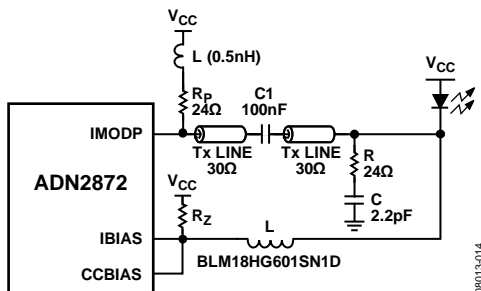

Figure 32. Recommended Interface for ADN2872 AC Coupling
This on-chip resistor helps to damp out the low frequency oscillation observed from some inexpensive lasers. If the on-chip resistance does not provide enough damping, one external  $R_Z$  may be necessary (see Figure 32 and Figure 33).
The schematic in Figure 32 describes the recommended circuit for interfacing the ADN2872 to most TO-Can or coax lasers. These lasers typically have impedances of 5 Ω to 7 Ω and have axial leads. The circuit shown works over the full range of data rates from 155 Mbps to 3.3 Gbps including multirate operation (with no change to PAVCAP and ERCAP values); see Figure 18, Figure 19, and Figure 20 in the Typical Performance Characteristics section for multirate performance examples. Coax lasers have special characteristics that make them difficult to interface to. They tend to have higher inductance, and their impedance is not well controlled. The circuit in Figure 32 operates by deliberately mismatching the transmission line on the laser side, while providing a very high quality matching network on the driver side. The impedance of the driver side matching network is very flat vs. frequency and enables multirate operation. A series damping resistor should not be used.
The 30 Ω transmission line used is a compromise between drive current required and total power consumed. Other transmission line values can be used, with some modification of the component values. The R and C snubber values in Figure 32, 24 Ω and 2.2 pF, respectively, represent a starting point and must be tuned for the particular model of laser being used. Rp, the pull-up resistor, is in series with a very small (0.5 nH) inductor. In some cases, an inductor is not required or can be accommodated with deliberate parasitic inductance, such as a thin trace or a via placed on the PC board.
Recommended component layouts and gerber files are available by contacting sales at Analog Devices. Note that the circuit in Figure 32 can supply up to 56 mA of modulation current to the laser, sufficient for most lasers available today. Higher currents can be accommodated by changing transmission lines and backmatch values. This interface circuit is not recommended for butterfly-style lasers or other lasers with 25 Ω characteristic impedance. Instead, a 25 Ω transmission line and inductive (instead of resistive) pull-up is recommended. Contact sales for recommendations on transmission lines and backmatch values.
In Figure 32 and Figure 33, Resistor RZ is required to achieve optimum eye quality. The recommended value is approximately 200 Ω ~ 500 Ω.
**Table 6. ADN2872 Response to Various Single-Point Faults in AC-Coupled Configuration, as Shown in Figure 32**